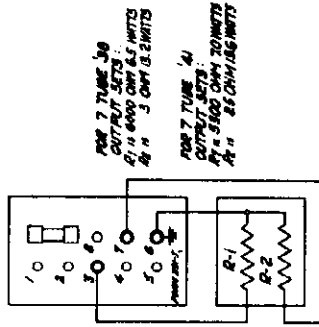

Fig. 1. Using Resistors for Load
- 1—Resistor for the "A" circuit as indicated in Fig. 1.
- 1—Resistor for the "B" circuit as indicated in Fig. 1.
Then insert the tips in the multi-point socket as shown in Fig. 1.